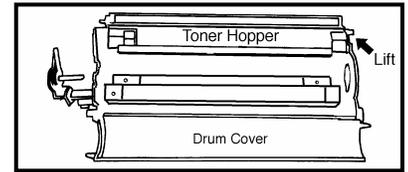
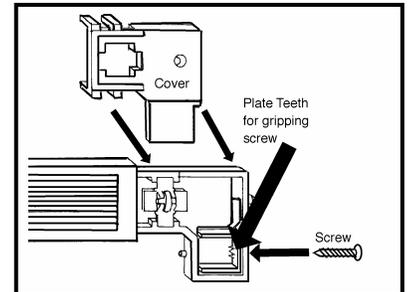

Figure 6
Figure 7
9. Remove the toner hopper from the cartridge shell (Fig. 6).
9. Remove the corona assembly screw. Remove and clean the corona assembly (Fig. 7). Pry the corona assembly to the left and lift it out. There are two industry methods of cleaning this assembly, manual and ultrasonic. The manual method requires using a Scotchbrite® pad. Use a small piece of the pad and gently move the pad up and down the length of the wire. The ultrasonic method requires placing the entire corona assembly in an ultrasonic cleaner. **Note:** After removing the corona assembly two or three times, you need to insure that the contact plate teeth for the corona assembly screw (Fig. 6) have not been spread too far.